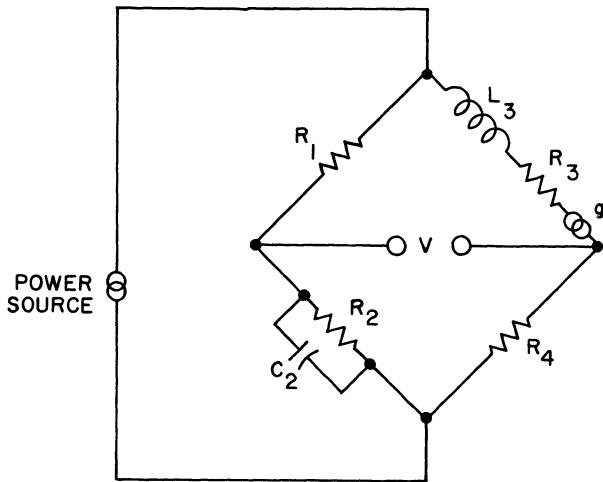

Figure 4-36. Servo Amplifier Bridge A29-407-2
4.9.9.3 RATE BRIDGE. In order to have a smoothly functioning system, the feedback from the output stage should be proportional to motor speed. An effective method of deriving a signal proportional to motor speed is illustrated in figure 4-36. This method is based upon the fact that the two-phase servomotor may be treated electrically equivalent to a series combination of its stalled impedance and a generator representing the counter emf. This counter emf is closely proportional to the motor speed. In the bridge circuit of figure 4-36, it can be shown that the two independent conditions for balance are as follows: